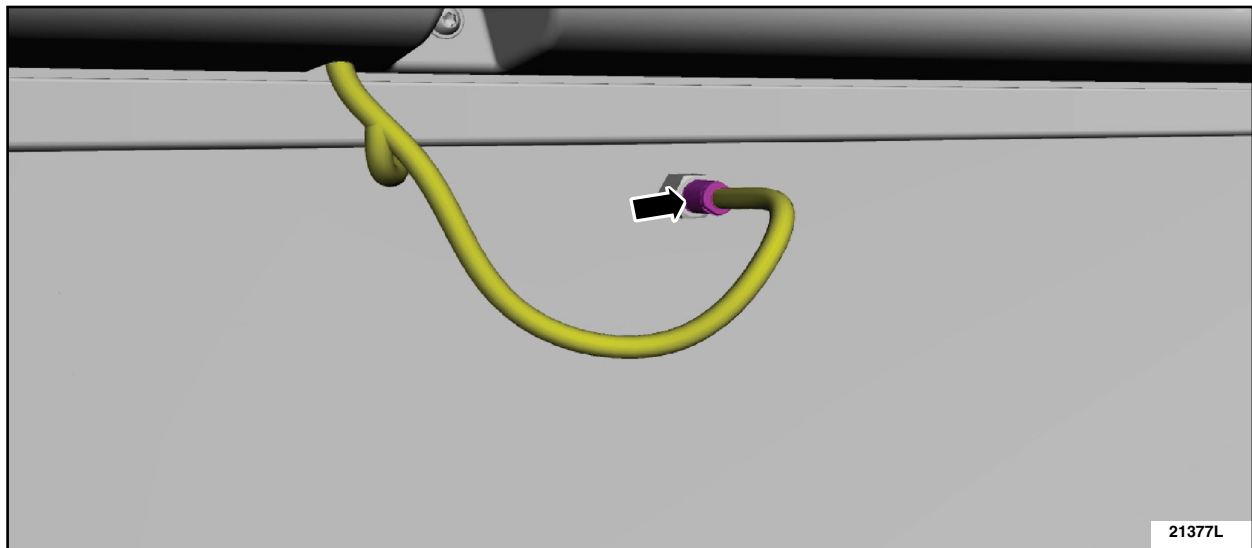

FIGURE 17
4. Disconnect the rear window washer hose. See Figure 17.